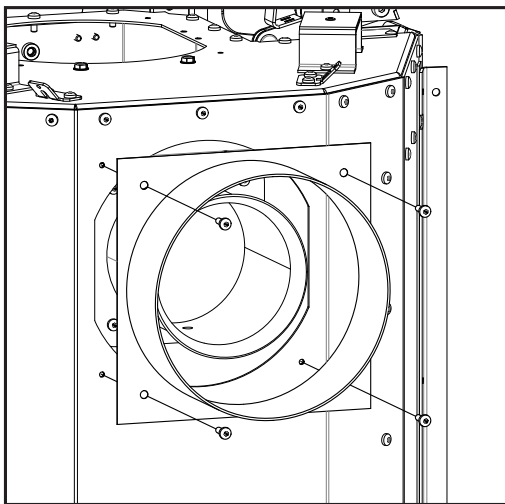

Figure 74: Vent Adapter Attachment
11. Attach the vent adapter over top of the exhaust spigot (see Figure 74).